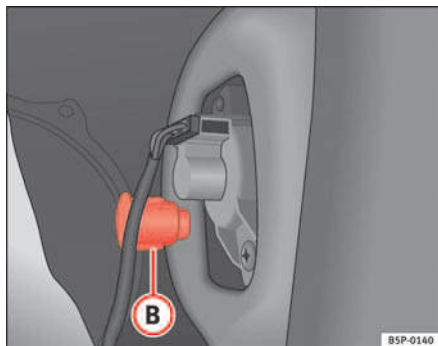

Fig. 182 Side lights and brake lights
- Unscrew the plastic fitting ⇒ fig. 182 **B** securing the rear light. Inserting a screwdriver under the plastic fitting may help to loosen it.